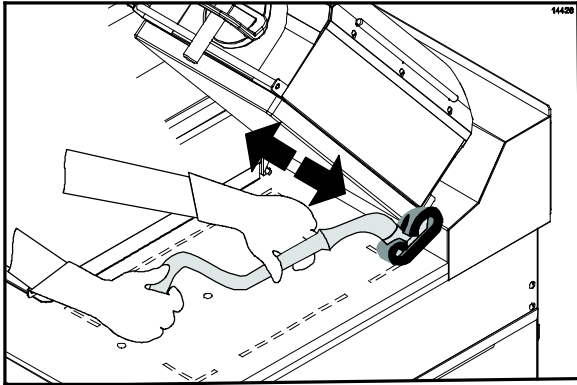

Figure 89
- Apply the grill cleaner to the back side of the platens, from the right platen to the left platen. (See Figure 89.)